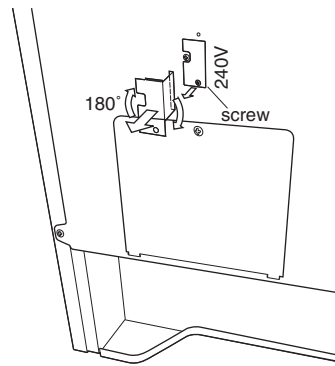

Figure 4
- 2 Remove the screw and rotate the switch plate 180° as indicated in the Figure 4.